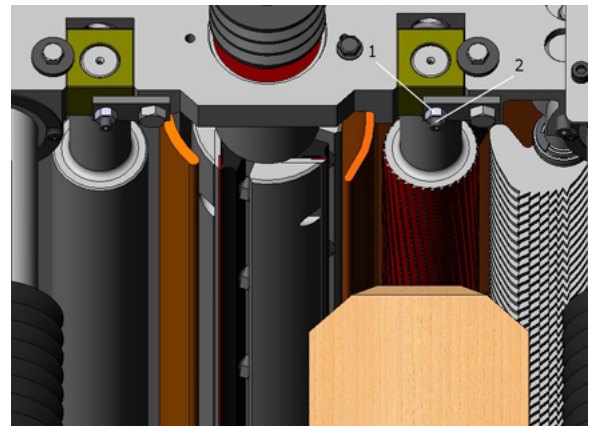

Fig. 23
1. Place gauge block under the infeed roller. (Fig. 23).
2. Loosen nut (2) and turn screw (1). This will make the infeed roller move upwards, or downwards.
4. Once adjusted, turn the nut tightly (2), and replace screw (1).